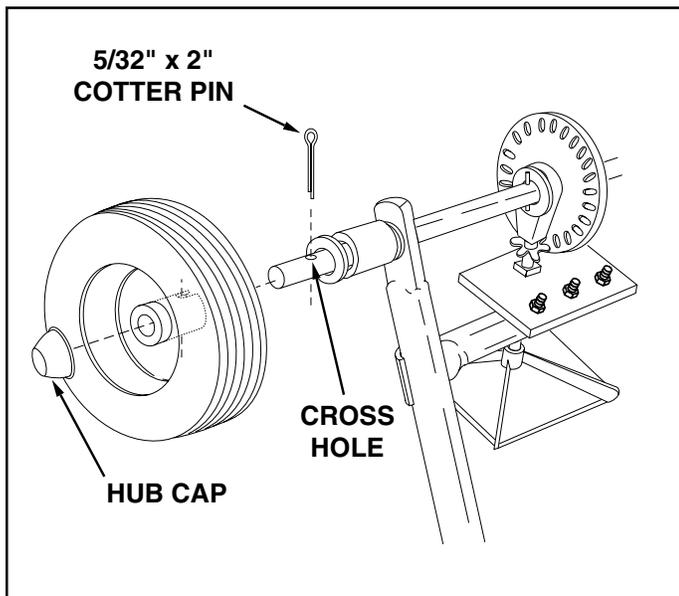

FIGURE 5
11. Place a wheel onto the end of the axle that has a cross hole. The long end of the hub goes to the inside. See figure 5.
12. Assemble a 5/32" x 2" cotter pin through the notched wheel hub and the axle. See figure 5.
13. Place a hub cap onto the end of the axle. Using a small hammer, lightly tap the hub cap until it is snug against the wheel. See figure 5.
1. If the axle, slotted gear and sprocket assembly is disassembled, mark down the positions of the parts as they are removed. The drive wheel and sprocket positions in relation to the slotted gear determine which direction the spreader plate will spin. Be sure to reassemble them in their original positions. (Refer to figure 5 on page 5.) Use shim washers (Ref. no. 21 on pages 10 and 11) as needed for minimum backlash. Add grease to gear and sprocket.